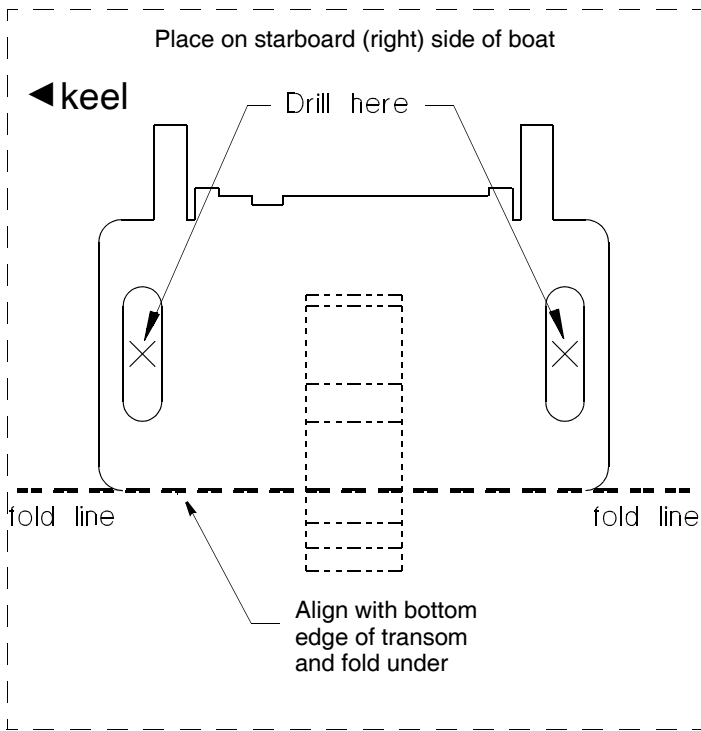

Figure 2. Template
2. Cut-out the template printed on this page. Fold the template along the fold-line (Figure 2).